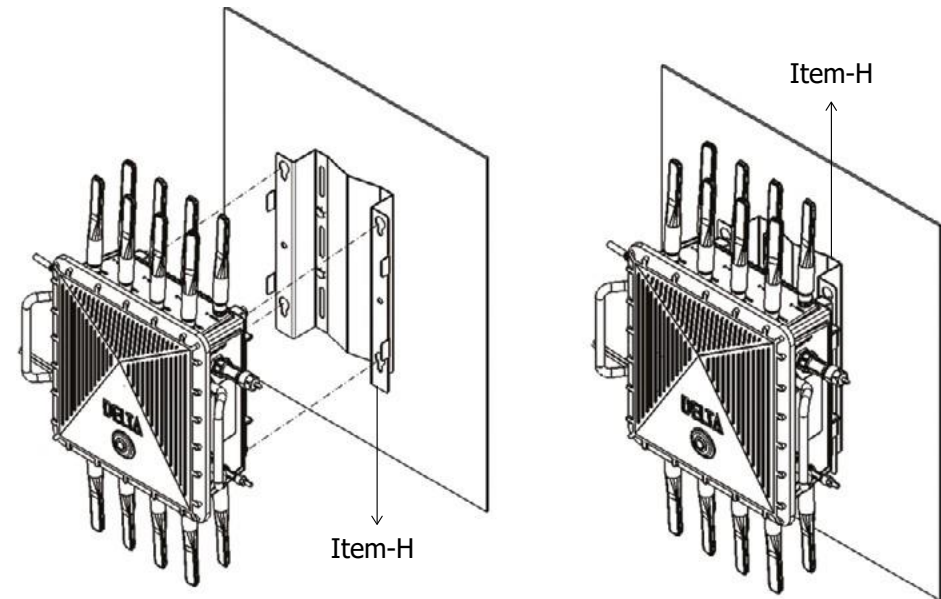
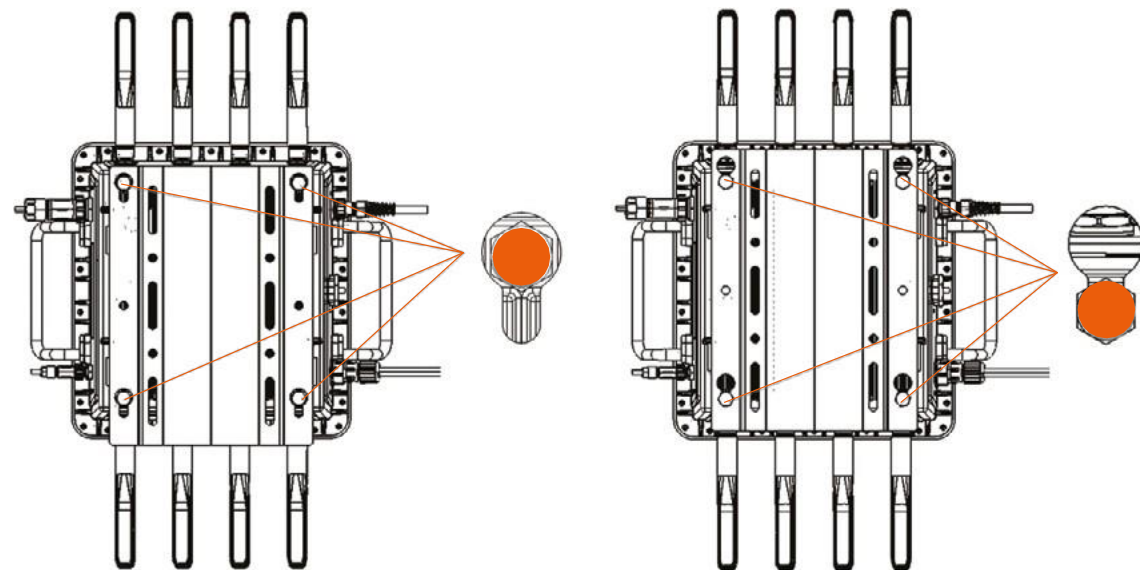

Figure 18: Device locking mechanism - 1
Figure 19: Device locking mechanism - 2
- b. Align the 4 bolts in the back of the hyperSPROUT™ smarthub or hyperHUB™ access point to the 4 slots in the mounting bracket. Push the hyperSPROUT™ smarthub or hyperHUB™ access point bolts into the slots and slide the hyperSPROUT™ smarthub or hyperHUB™ access point down to lock it in the position as shown in *Figure 18* and *Figure 19*.